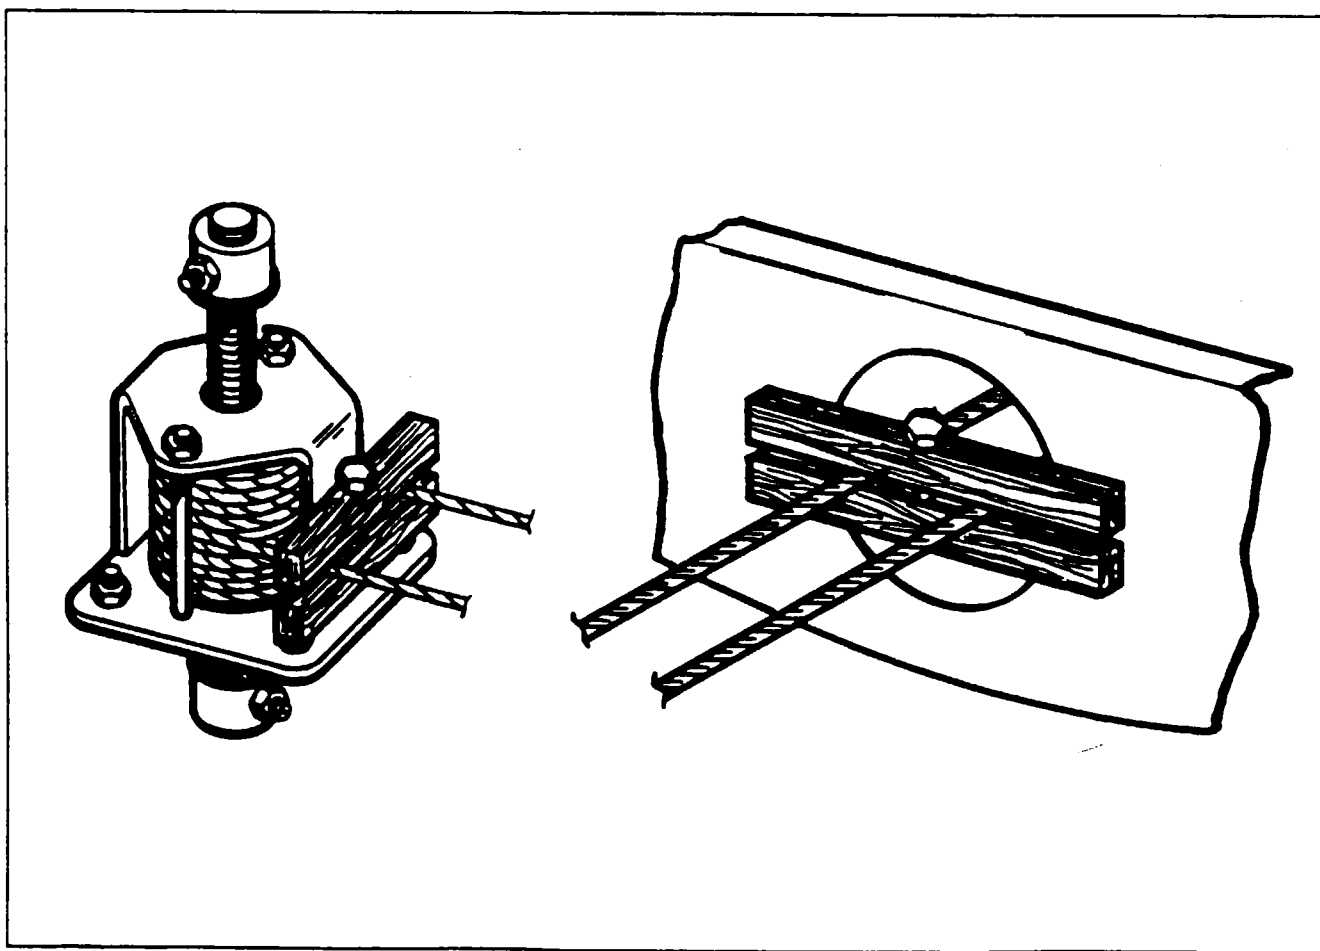

Figure 57-2. Methods of Blocking Trim Cables
- C. Remove the access panel to the aft section of the fuselage. Block the elevator and rudder trim cables ahead of the main spar and in the aft section of the fuselage to prevent the cables from unwrapping at the trim drums. (Refer to Figure 57-2.) Disconnect the elevator and rudder trim cables between stations 274. and 318. and draw the cables forward through the main spar. To allow the cables to be drawn through the fuselage, remove the cable guard at station 244. and rub blocks at station 174. and 215.